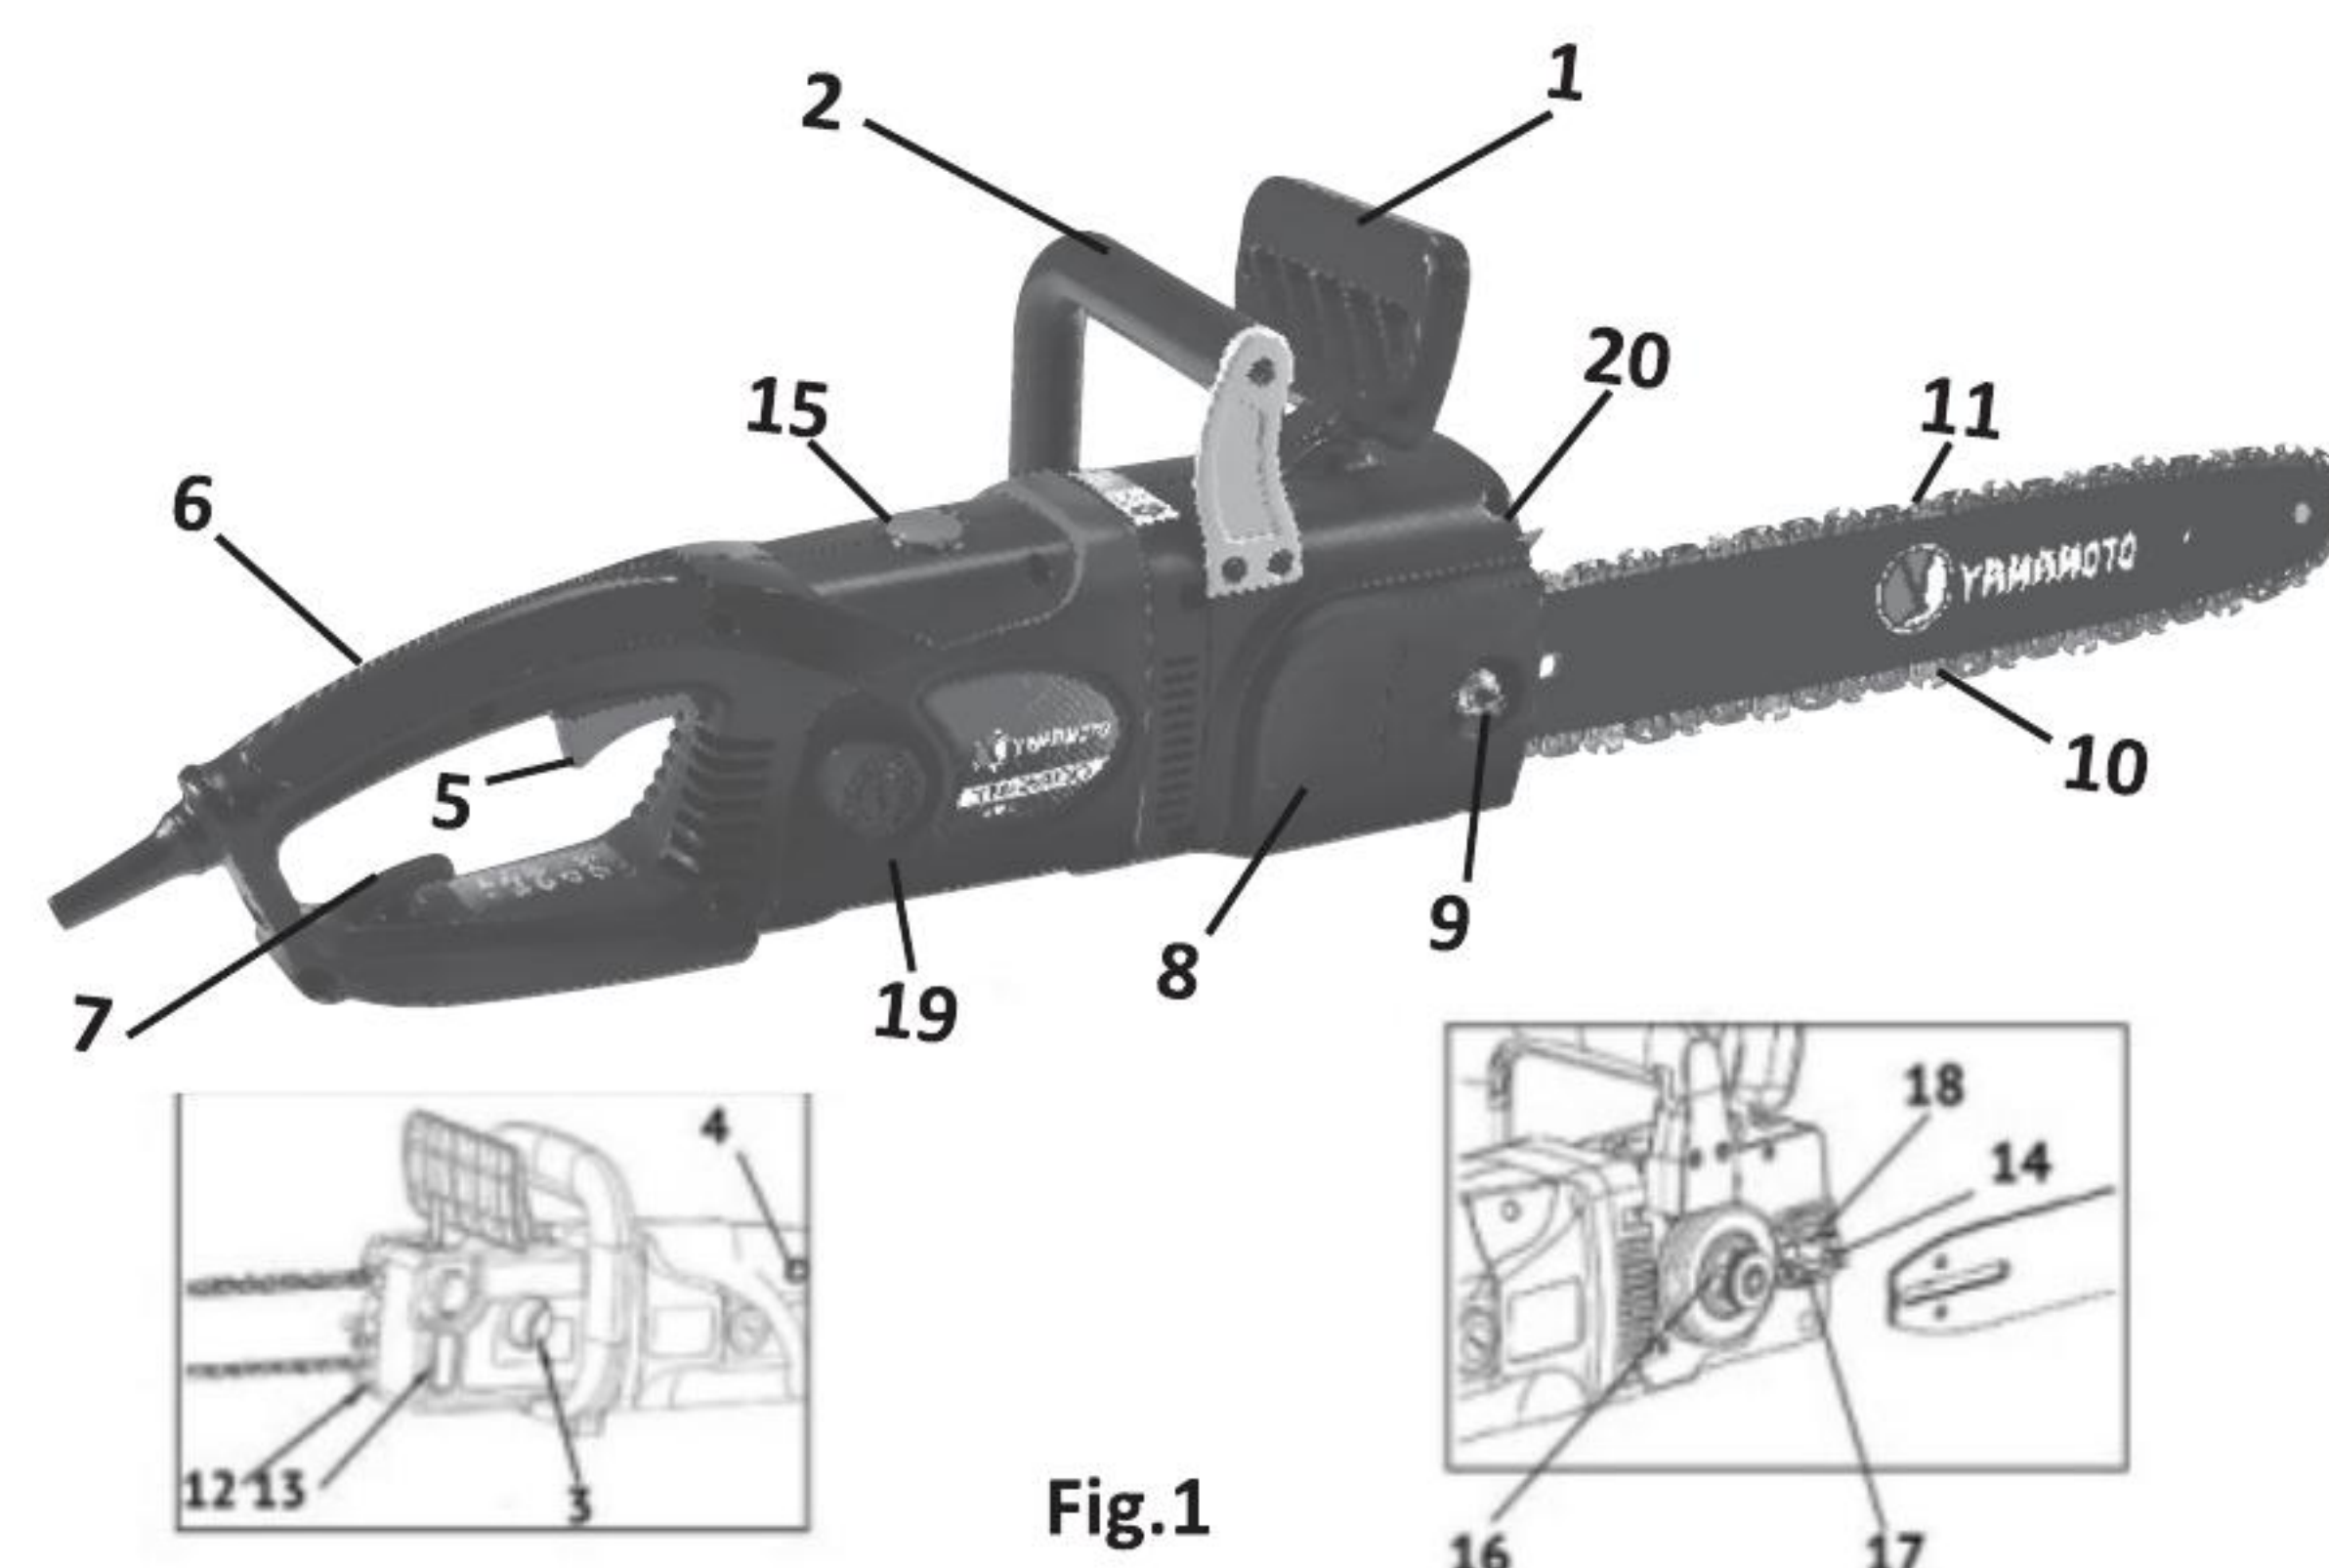

Fig.1
The working body of the saw is a saw unit, consisting of an endless (closed) saw chain (Fig. 1, pos. 11) running along a guide rail (Fig. 1, pos. 10).
1.3 Switching the saw into operation is carried out by pressing the switch key (Fig. 1, pos. 5). The switch has a lock against accidental switching on. By pressing the button (Fig. 1 pos.-, left on the rear handle), the switch key is unlocked.
After pressing the switch key (fig.1 pos.5), the drive sprocket sets the saw chain in motion. The released key and the lock button return to their original position - <off>.
A general view of the saw is shown in Figure 1, consisting of 2 halves, fastened with screws, there are: a switch key (Fig. 1 pos. 5) and a lock button (Fig. 1 pos. (4) keys).
The gearbox, chain brake and lubrication system are located in the gearbox housing (Fig. 1 pos. 20), the torque from the armature of the electric motor is transmitted by a pair of bevel gears to the saw spindle. An asterisk is mounted on the spindle, which converts the rotational movement of the spindle into linear movement of the chain along the guide rail. The chain is the main working tool of the saw.
The tire cover is attached to the right half of the gearbox housing (Fig. 1, pos. 8). The tire with the chain and the tire cover are mounted on a stud (Fig. 1, pos. 18) and fastened with a nut (Fig. 1, pos. 9).
On the left half of the gearbox housing are located: an oil tank cover (Fig. 1, pos. 3) and an oil level control window (Fig. 1, pos. 13).
- having unscrewed the fixing nut (fig.1 pos.9), remove the tire cover (fig.1 pos.8);
- by turning the screw (fig.1 pos.14) counterclockwise move the tension pin (fig.1 pos.17) to the extreme left position. Install the tire on the fastening stud (Fig. 1, pos. 18), while the tension finger must enter the installation guide bar hole;
- put the saw chain (Fig. 1, groove 11) on the drive sprocket (Fig. 1, pos. 16).
- slightly tighten the chain with the screw (fig.1 pos.14), turning it clockwise;
- install the tire cover and lightly tighten the fixing nut (fig.1 pos.9).
The chain tension is adjusted with a screw (Fig. 1 pos. 14) with a loosened bar nut (Fig. 1 pos. 9)
- unscrew the oil tank cap (fig.1 pos.3);
- fill the tank with oil up to the top of the window (fig.1 pos.13, make sure that no dirt gets into the tank);